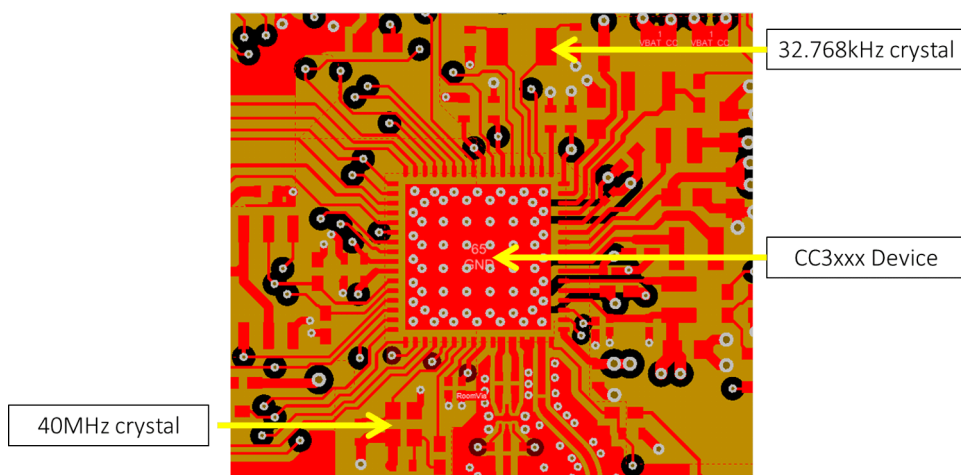

Figure 5-1. Layout of the CC32xx EVM
Figure 5-1 shows the top layer of the layout of the CC32xx reference design. The bottom layer is a solid ground plane. For more details, see the *CC3235S/CC3235SF SimpleLink™ Wi-Fi® LaunchPad™ Design Files*, see [12]. The same crystal layout can be used with CC31xx device.
- The ground plane on layer two is solid below the trace lanes, and there should be ground around these traces on the top layer, as shown in Figure 5-1.